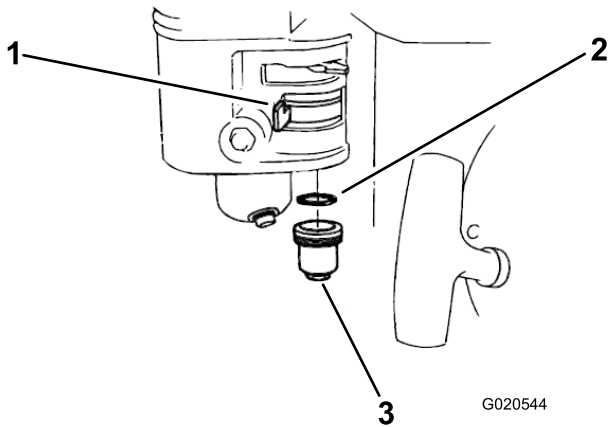

Figure 24
1. Move the fuel valve to the Off position, then remove the fuel sediment cup and O-ring (Figure 24).
3. Place the O-ring in the fuel valve, and install the sediment cup (Figure 24).
3. Remove the fuel sediment cup (Figure 24) and empty the fuel from it.
4. Move the fuel valve (Figure 24) to the On position, and drain the gasoline from the fuel tank into a suitable container.
5. Replace the sediment cup and tighten securely (Figure 24).